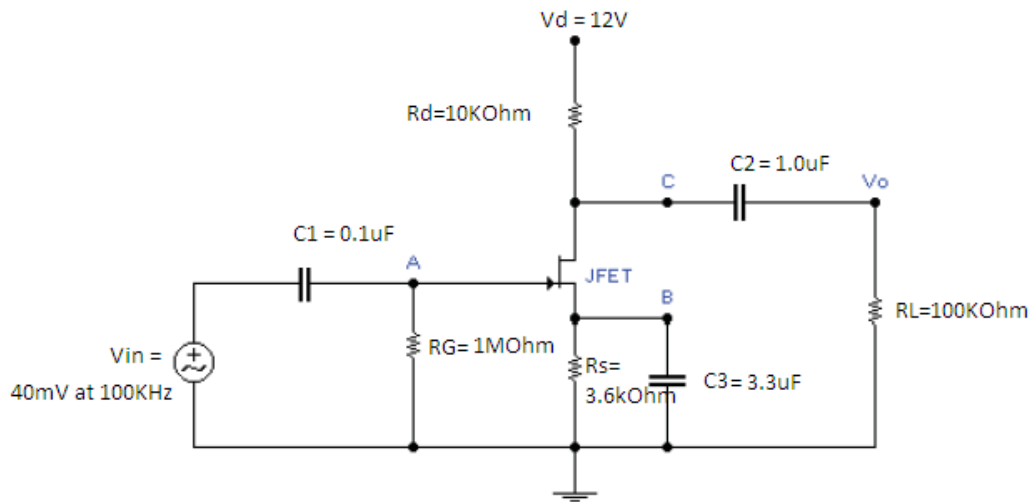

Figure 10.1
- 1 Build the circuit as shown in Fig. 10.1 in Multisim. Apply a small sinusoidal signal ($V_{pp}=40\text{mV}$) at the given frequency range (See table 10.1) using JFET 2N3824 (2N3819 in lab).
- b. For the lab apply the minimum amplitude allowed by your frequency generator. Create your own table similar to Table 10.1 but with a maximum frequency of 3 MHz. Make sure you collect enough data points to plot the frequency response of the circuit in Fig. 10.1.